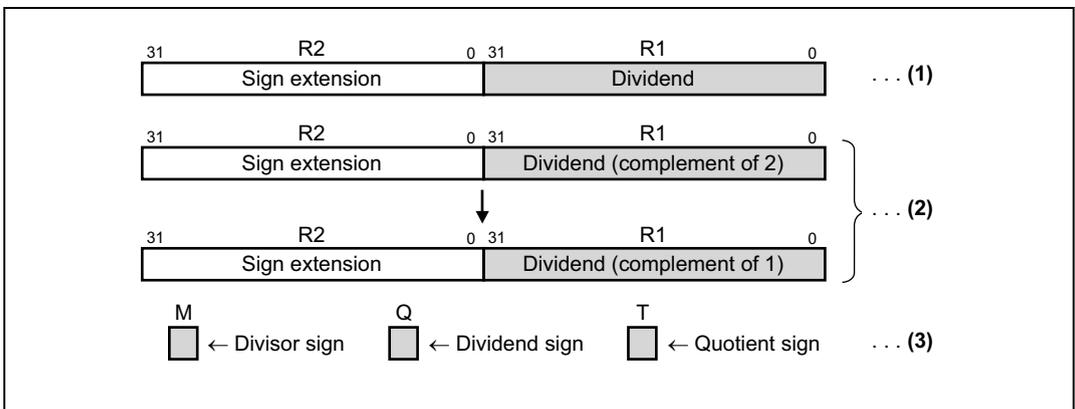

Figure 2 Initial Settings
(5) Operating Principle
- (i) R2 is used for the upper 32 bits to sign extend the dividend to 64 bits. (Figure 2-(1))
- (ii) If the dividend is negative, it is converted to a complement of 1 for handling by the one-step division instruction. (Figure 2-(2))
- (iii) The M, Q, and T bits used in one-step division are set to signed division values (M = divisor sign, Q = dividend sign, T = quotient sign). (Figure 2-(3))